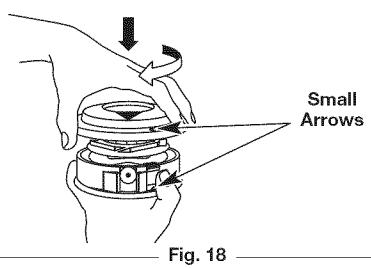

Fig. 18
- Align the small arrows on the spool (Fig. 18).
- Push the spool cover down and twist it clockwise until it locks into place (Fig. 18).